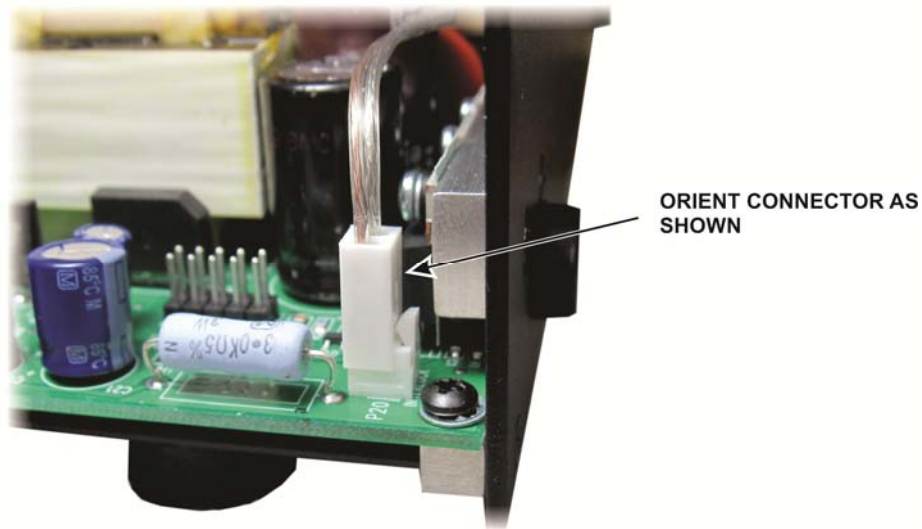

Figure 35. Connecting the Interlock Cable to the Power Supply Module.
□ Connect the cable from the interlock switch on the left side panel to the power supply module as shown in Figure 35.
Replace the left side panel using the screws you removed earlier. Be sure to reconnect the interlock switch to the power supply module (see Figure 35 on page 26) and ensure the interlock switch cable is not trapped between the side panel and the heat spreader.